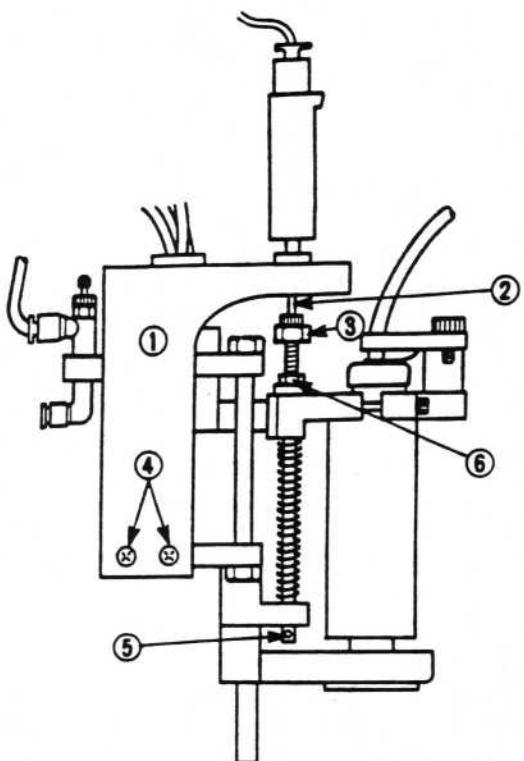
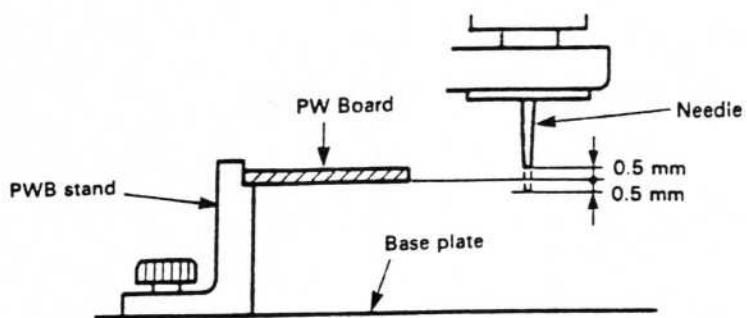

Fig. 5
Fig. 6
- (1) Loosen the screws ④ in the BD cylinder bracket ① and adjust, making sure that the centers of the cylinder shaft ② and the hexagonal bolt ③ are in alignment (Fig. 5).
- (2) Set the main unit to TEACHING mode, switch ON/OFF the HEAD SW on the main unit's operation panel and operate HEAD UP/DOWN.
- (3) Check that the needle end is aligned with the height of the underside of the board when the head is down (see Fig. 6).
- (4) If the heights are not aligned, adjust according to the following procedure so that the height of the needle end is within ± 5 of the height of the underside of the board (see Fig. 6).
- (5) Insert a pin in the ø3 mm hole ⑤ in the lower end of the spring shaft and loosen the hexagonal nut ⑥ (see Fig. 5)
- (6) Turn the hexagonal bolt ③ to adjust the height of the needle end so that it is within ± 5 of the height of the underside of the board (see Fig. 5).
- (7) After adjustment, turn the hexagonal nut ⑥ counterclockwise to tighten it so that the hexagonal bolt ③ is not loose (see Fig. 5).
- (8) Remove the pin from the hole in the lower spring shaft (see Fig. 5).